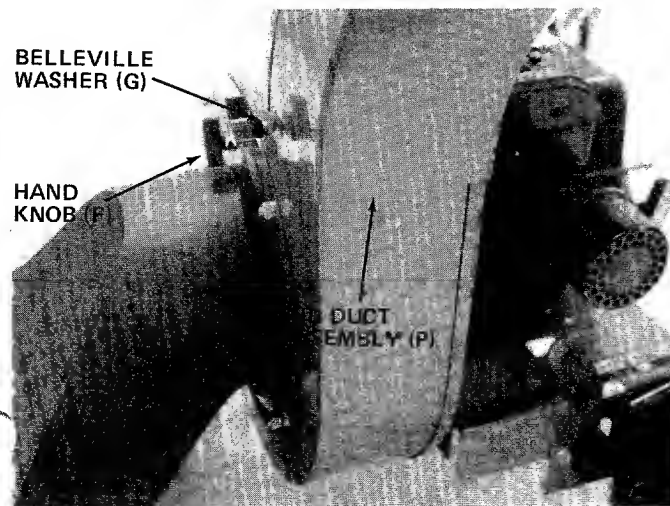

FIGURE 6.
4. Place air duct assembly (P) over opening on top of housing. Secure with two hand knobs (F) and belleville washers (G). See figure 6.